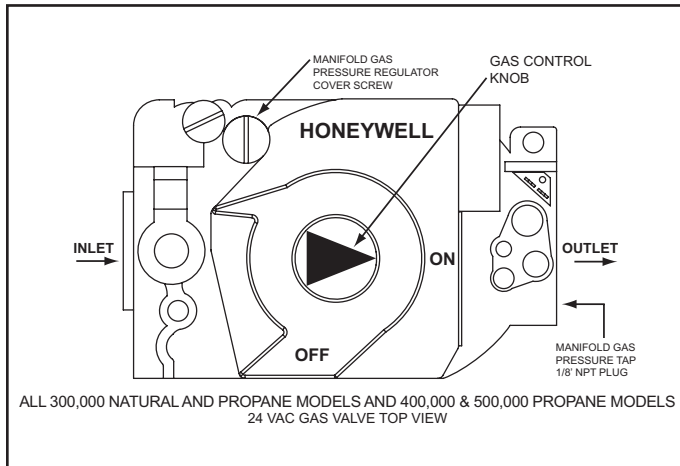
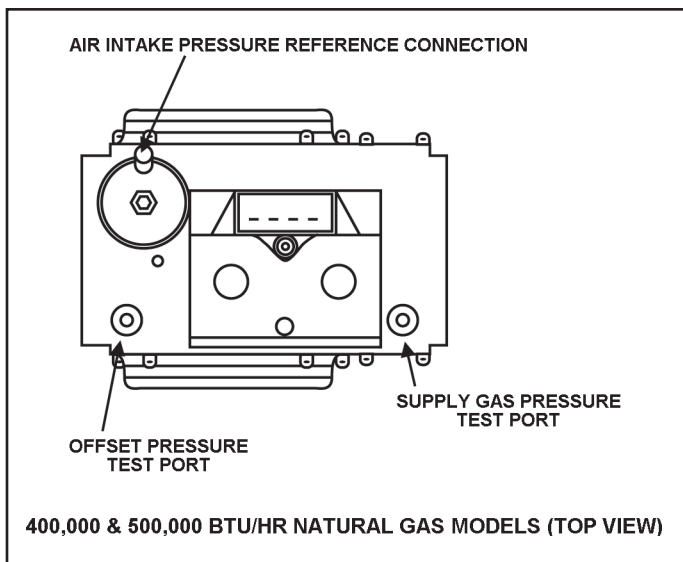

Figure 56
Figure 57
4. Push in the gas control knob slightly and turn to the "off" position, see Figure 56 on page 51.
5. Wait five (5) minutes for any residual gas to clear.
6. Connect one manometer (higher range) to an available test port on the supply gas line at the water heater. There is a 1/8" NPT Tee fitting and pipe nipple installed for the Low Gas Pressure switch on the inlet side of the 24 VAC Gas Valve with a 1/8" NPT plug for this purpose. For BTH-400 and 500 natural gas models, connect the manometer to the supply gas pressure test port, see Figure 57 on page 52.
7. Connect one manometer (lower range) to the manifold gas pressure tap at the outlet of the 24 VAC Gas Valve, see Figure 57 on page 52 for location.
1. Push in the gas control knob slightly and turn to the "on" position, see Figure 56 on page 51.
2. Remove the manifold gas pressure regulator cover screw, see Figure 56 on this page 51.
3. Push in the gas control knob slightly and turn to the "off" position, see Figure 56 on page 51 and Figure 57 on this page.